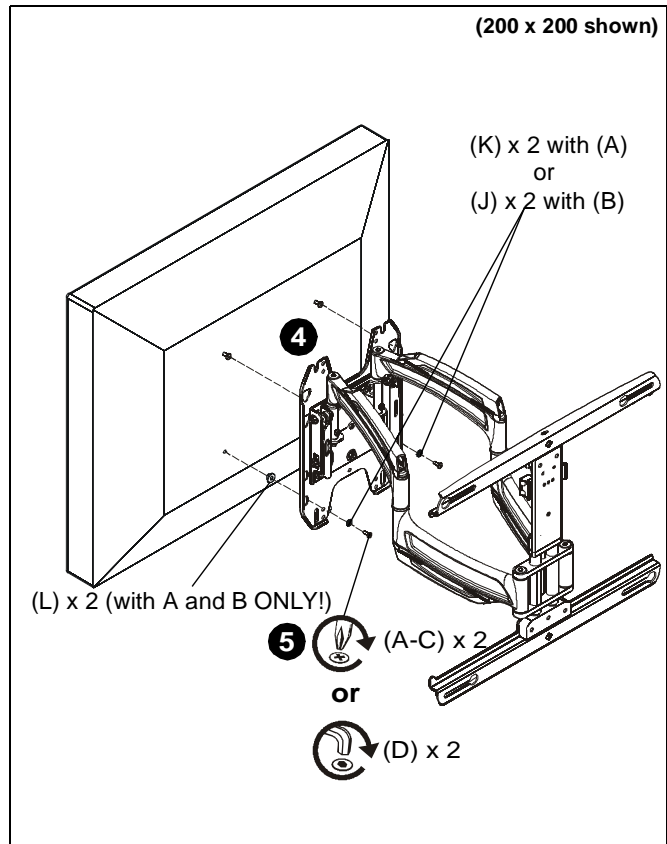

Figure 25
4. Hang display by two screws onto faceplate through either inner or outer teardrop mounting holes. (200x200 mounting pattern shown) (See Figure 25)
5. Install two selected screws (A-D) through selected washer hardware (H, J and K, if necessary), lower holes on faceplate and into lower two holes on display. (See Figure 25)